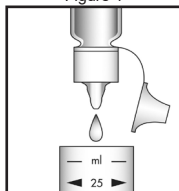

Figure 2
3. Add 3 drops of S-9500 Activator Solution (fig. 2). Stir to mix the contents of the cup.